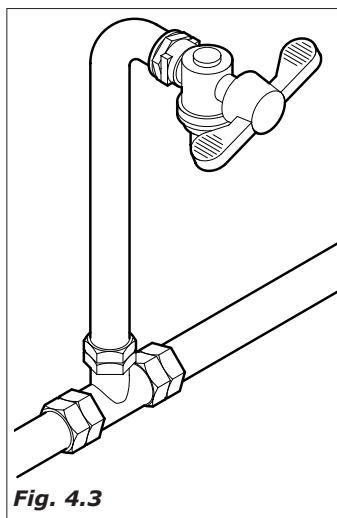

Fig. 4.3
- install, if not present, a tap in an accessible position to isolate the machine from the water mains should it be found to be necessary (Fig.4.3).